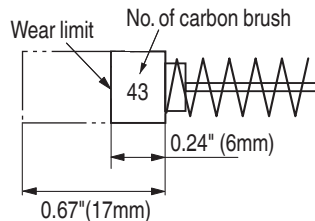

Fig. 5
4. Inspecting the carbon brushes (Fig. 5)
Use metabo HPT carbon brush No.43 indicated in Fig. 5.